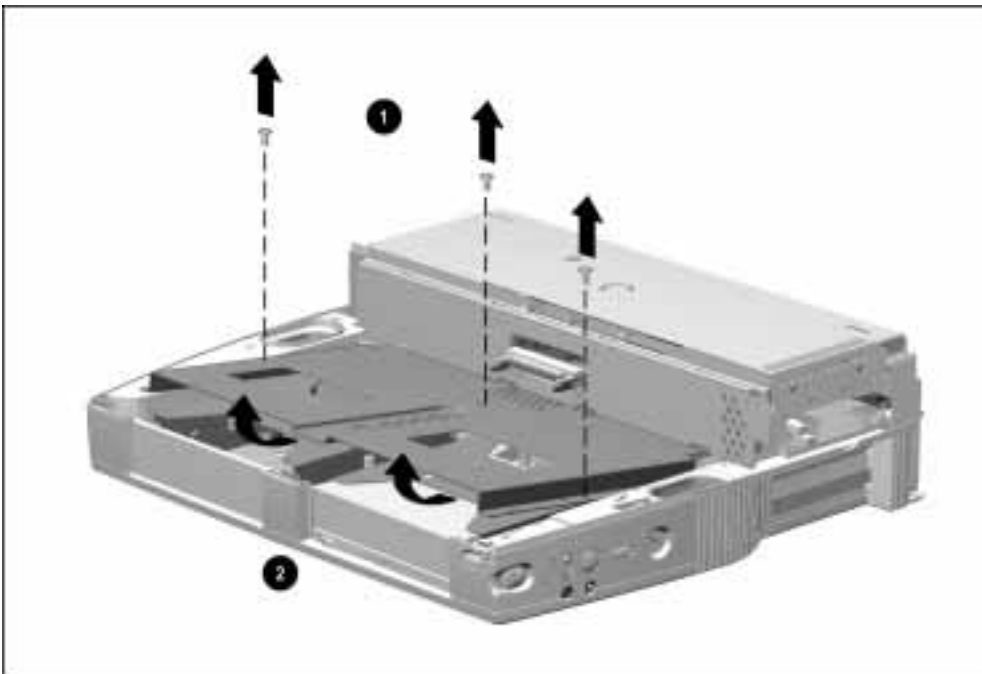

Figure 5-14. Removing the Drive Cage Shield
5. Remove the three screws securing the drive cage shield to the base assembly ❶ (Figure 5-14).
6. Lift up on the front of the drive cage shield and pull forward to fully disengage ❷.